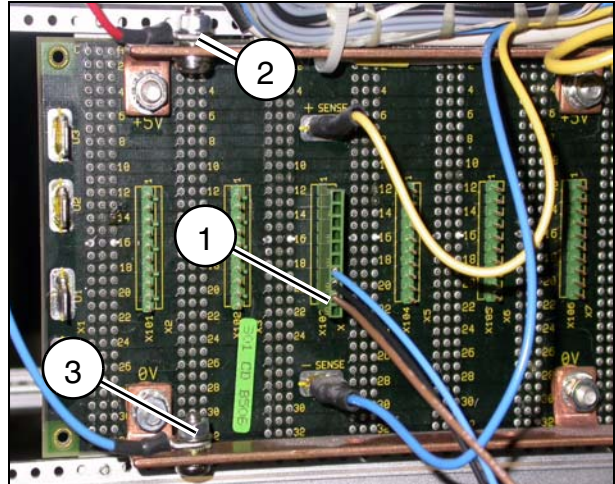

Fig. 2
- Screw fasten the red lead from socket connector D23 d2 onto the plus rail (2/Fig. 2)
- Screw fasten the blue lead from socket connector D23 d4 onto the minus rail (3/Fig. 2)